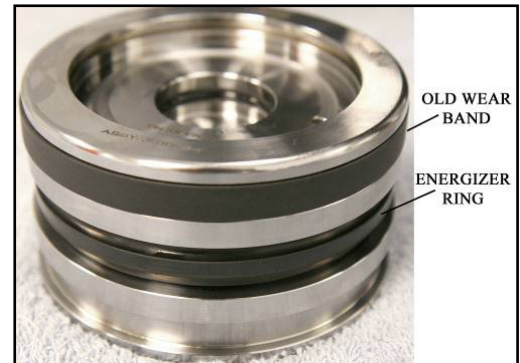

FIGURE 4
8. Re-Install the old Wear Band. Stretch the Energizer Ring over the piston into the center groove as shown in **Figure 4**.